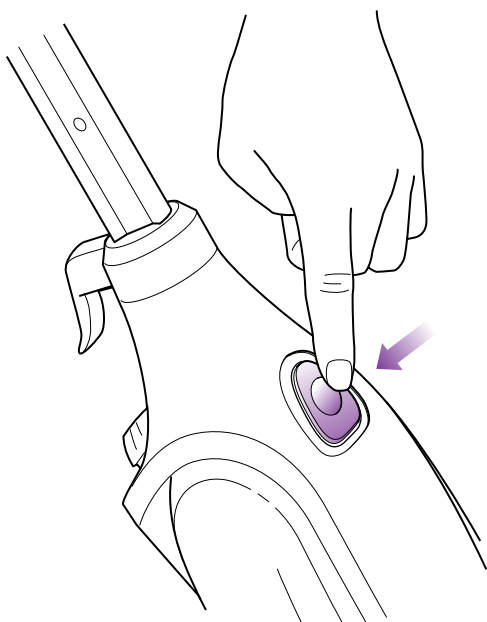

fig. 8
- 3 Press the **ON/STANDBY** button once for dust setting (**DUST** lighted setting indicator will illuminate). **DUST** setting is light steam for a quick dusting and best dry time. (fig. 8)